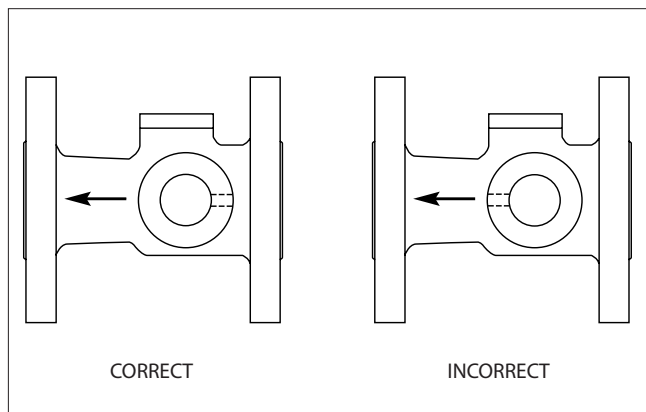

Figure 1.
3. Flanged hydrogen peroxide valves must be installed with the body insert facing upstream. With the valve in the closed position with the handle or actuator mounted, check the orientation of the ball and flow arrow. Compare with **(Figure 1)**. Correct any misorientation by removing the handle or actuator, rotating the ball 180° and reinstalling the handle or actuator.